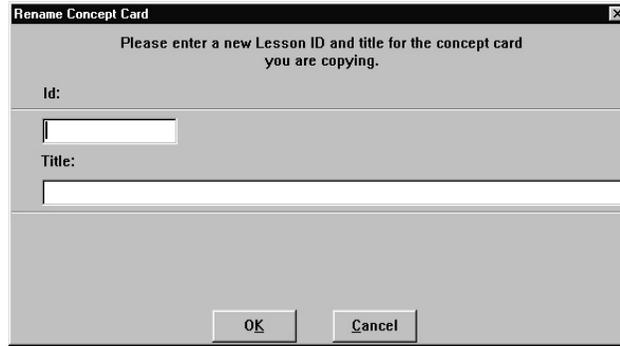

Figure 6-82. Rename Concept Card
- (1) If you click on **Rename**, the Rename Concept Card dialog box (Figure 6-82) appears to allow you to enter a new lesson ID and title for the concept card being retrieved, thus preventing the corresponding Working concept card from being overwritten.